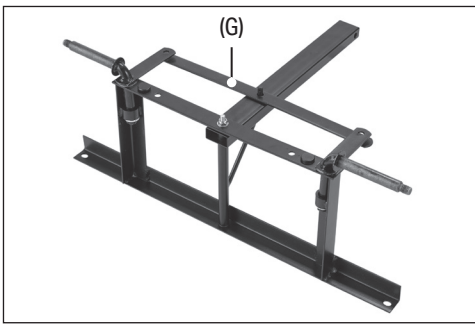

Fig. 4
- Place the centre hole of the front axle connector (G) over the front arm pin and align the outer holes with the axle brackets. (Fig. 4).